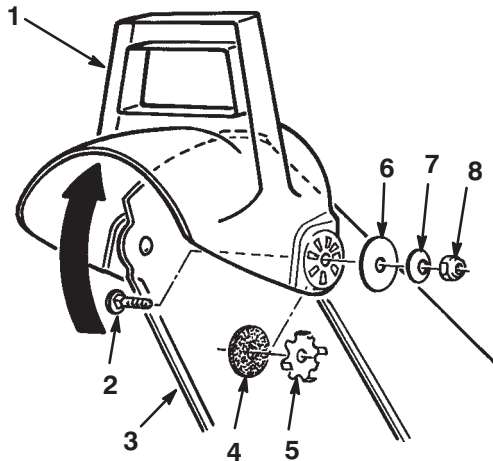

Figure 11
2. Secure the left side of the deflector to the discharge chute using the parts as shown in Figure 11.